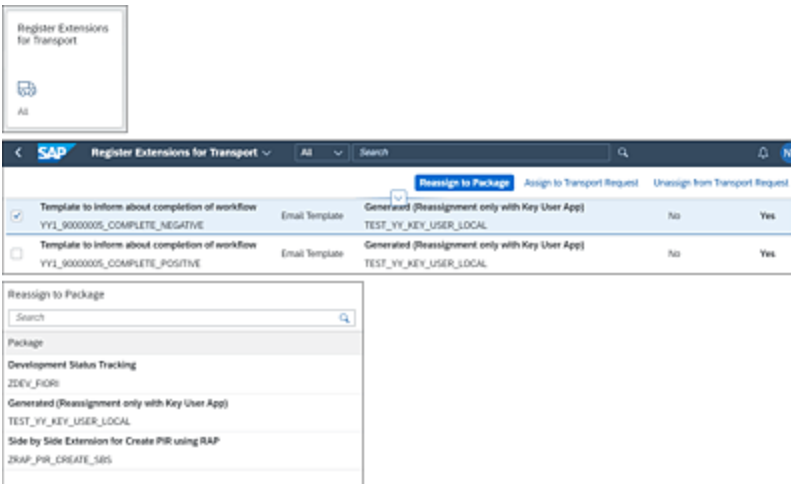

Figure 16.15 Register Extensions for Transports
The Register Extensions for Transport app is used to assign extension items to software packages and transport requests. The email template we've created in earlier sections is saved in local project TEST_YY_KEY_USER_LOCAL, which we set up in ATO. You have to move this email template extension item from this local package to the transportable package by following these steps (see Figure 16.15):
1. Open the Register Extensions for Transport app via its tile, as shown in Figure 16.15.